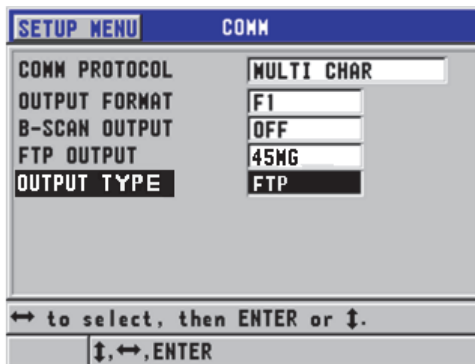

Figure 8-3 The COMM screen
2. In the **COMM** screen (see Figure 8-3 on page 155):